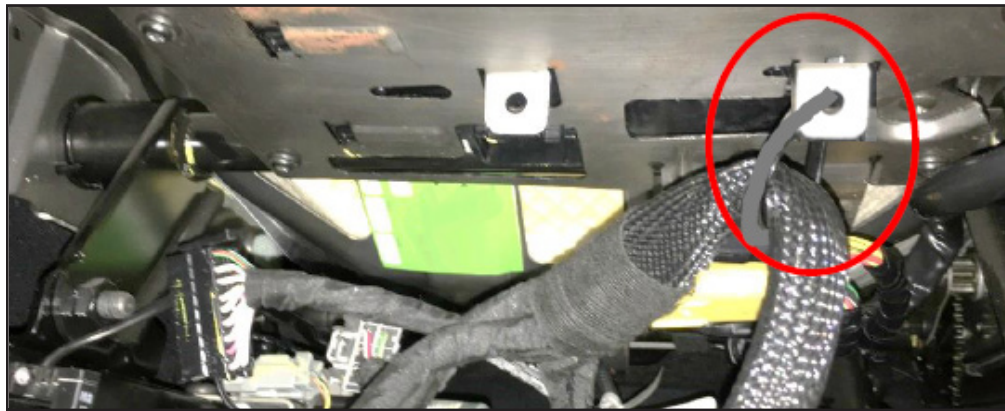

fig. 3
-Insert one (1) cable tie (or “zip tie”) through the outer seat frame tab (circled) and loosely secure it around the harness as shown (fig. 3)